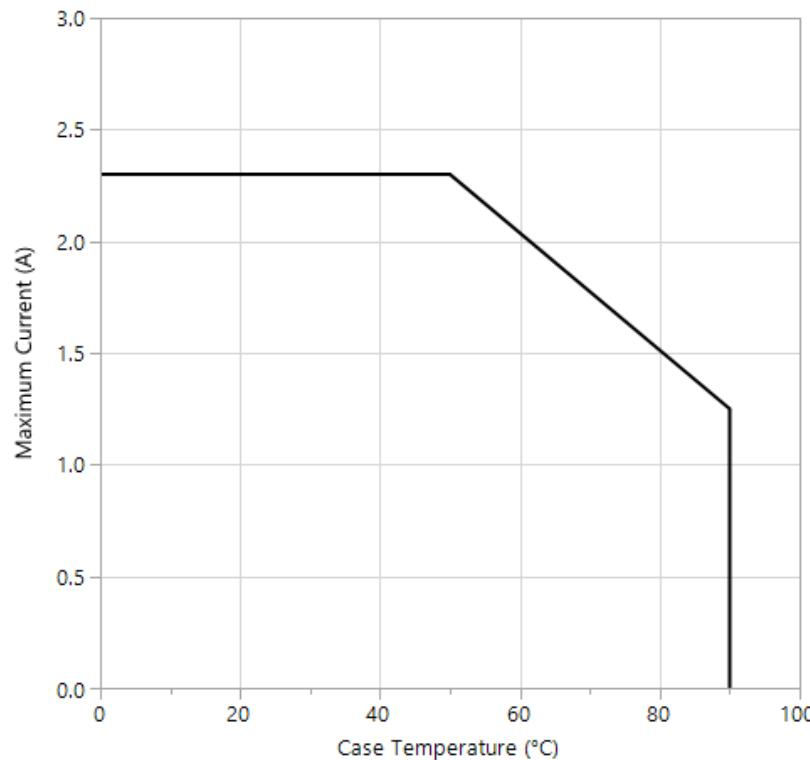

Figure 23: Derating curve for White channel
***See derating curve (Figure 23)